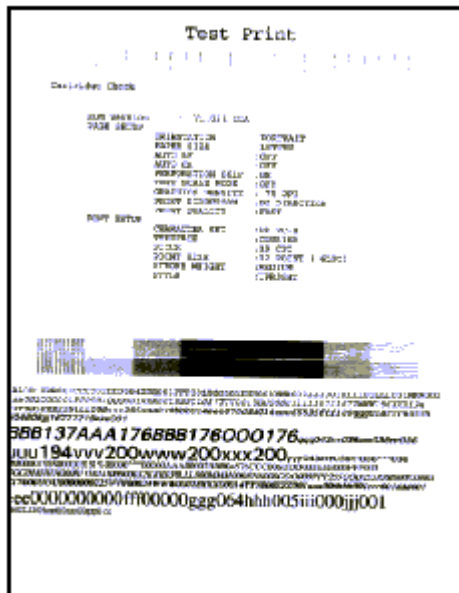

Figure 1. Test Print
- c. While pressing and holding the **Resume/ FF** button press and release the **Power on / Reset** button. The printer prints the test print shown in Figure 1. When the test print is complete, the printer initializes and returns to the Ready status.